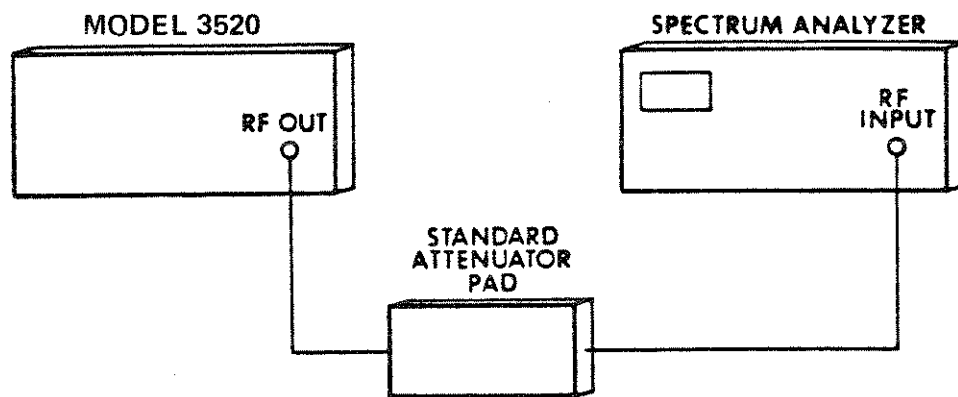

Figure 4-1. Set-up for Step Attenuator Tests
3. Disconnect the power sensor and connect a standard 10 dB attenuator pad to the RF OUT connector. Connect the output of the attenuator pad to the spectrum analyzer as shown in Figure 4-1.